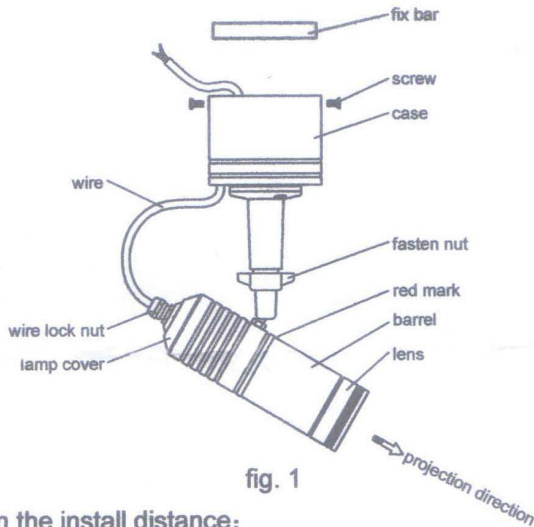

fig. 1
- 1) Before installation, according to above calculation result, choose install method, ascertain install place, please pay attention to the fix bar direction must be in accord with the projection direction, otherwise the wire is easy to be wrapt. Please see the fig.1, the fix bar direction at the same plane with the projection direction. For the installation method A, the fix bar install on the ceiling, upright position with the wall. For the installation method C, the fix bar install on the wall, upright position with the ground.